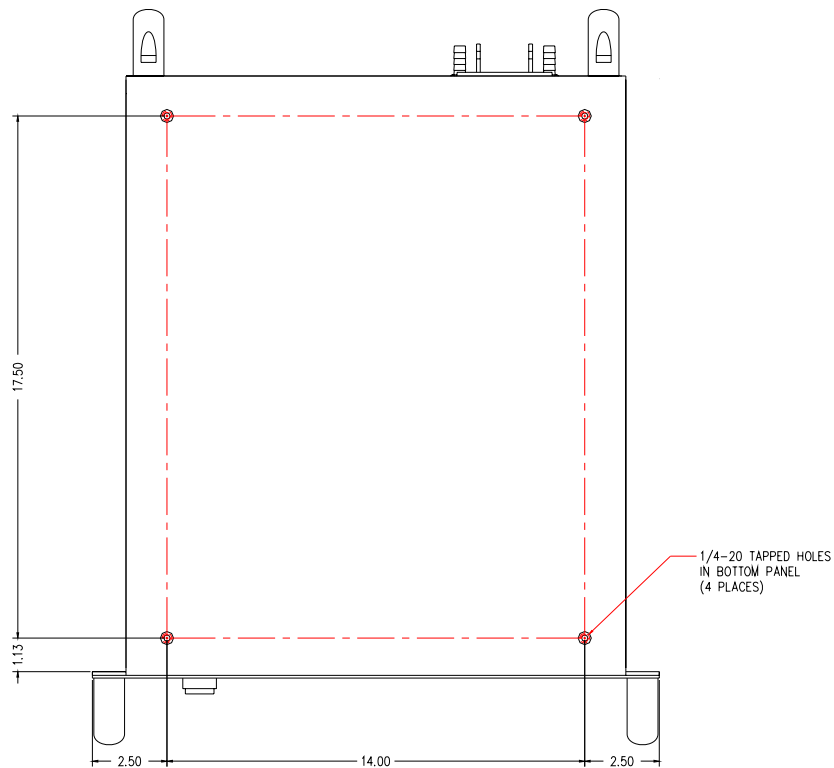

Figure 3-16. Mounting Hole Pattern
In addition, if the equipment rack which houses the Model 642 is to be shipped, the Model 642 must be anchored to the shelf. Threaded inserts are provided in the bottom of the Model 642 for this purpose. Four (4) 1/4-20 x 1/2 in bolts (not included) are required. The hole pattern for mounting is shown in Figure 3.16.